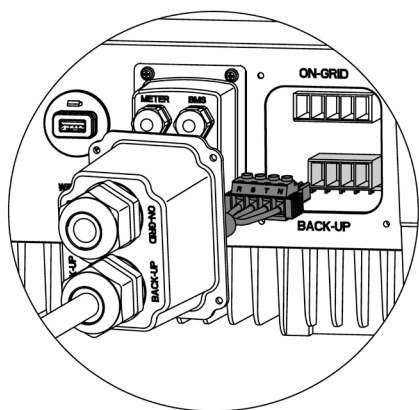

Fig. 41. AC BACK-UP connection.
7. Connect the AC BACK-UP connector to the AC BACK-UP terminal on the inverter, as shown in Fig. 41 below: